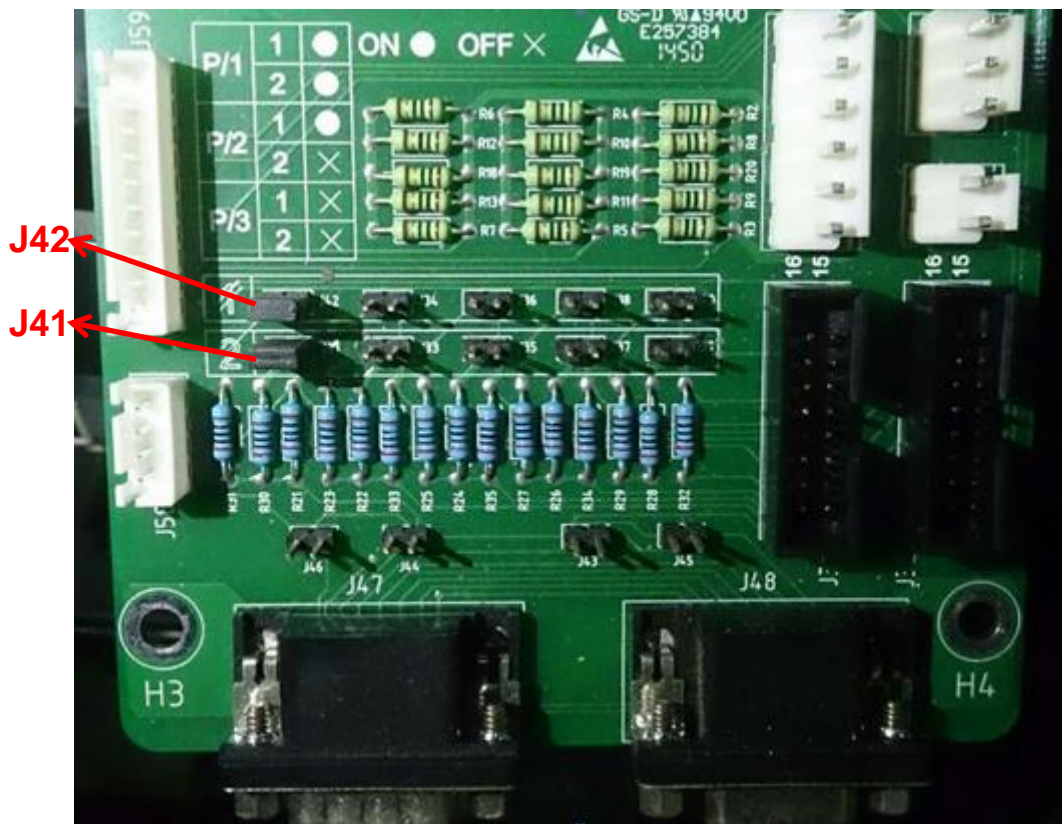

Figure 6 Parallel board settings
- For 3 cabinets' parallel system, connect the parallel signal cables, and check the parallel board settings, as is shown in figure 6 and 7.